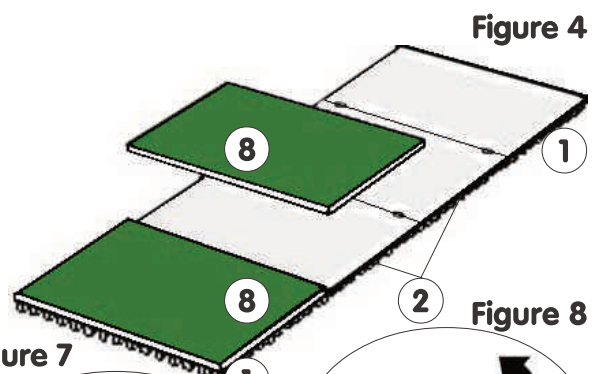

Figure 4
Lay the Multipurpose carpets (8) in line with the floor, positioning them according to the width (4.9 or 6.56ft) of the track (as shown in Fig. 4).